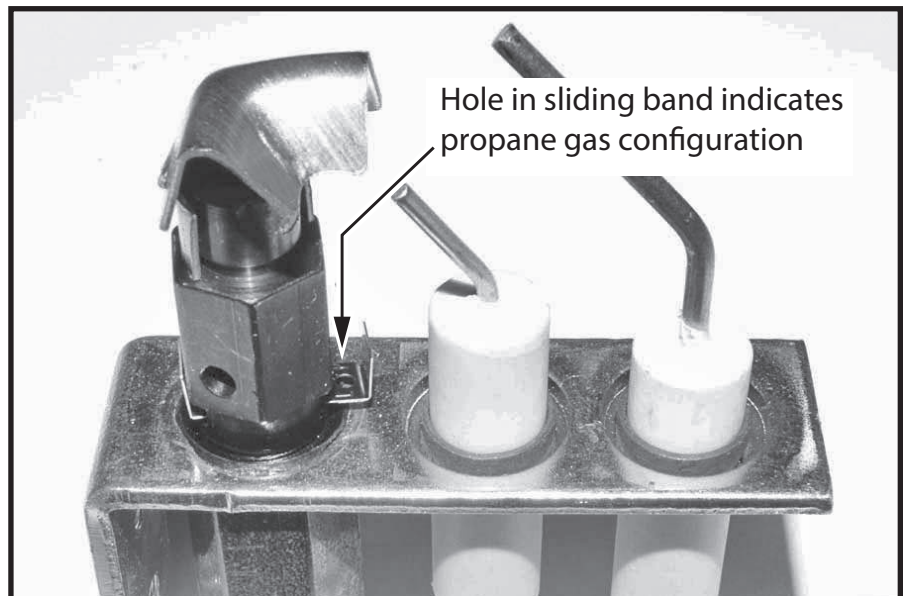

Figure 44: Pilot band in propane gas position.
7. Slide the pilot adjustment band over (Figure 44) and ensure that the hole in the orifice band is showing.